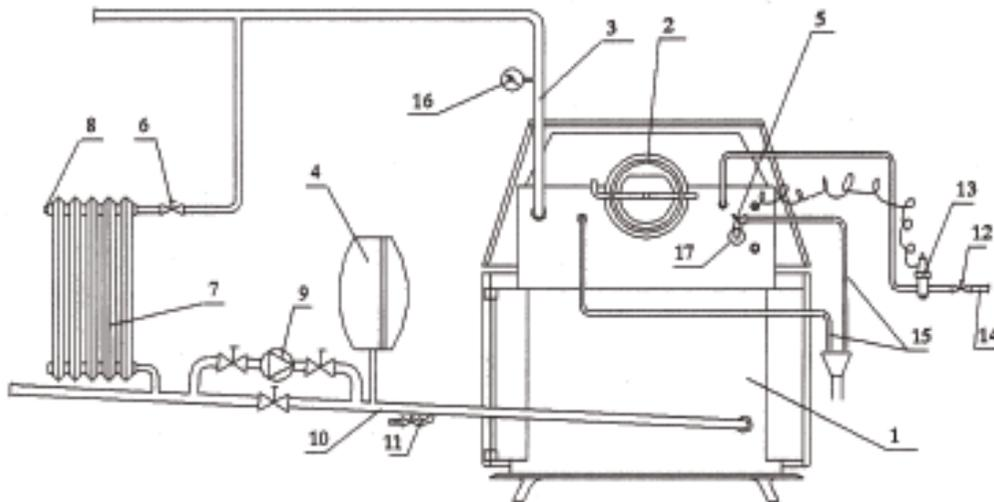

Fig. 7
**Special characteristic of these stoves – furnaces is that they have built-in snake hose (copper pipe) which when connected to the thermal valve (fig. 7 and fig. 7a pos. 13) is used as a thermal fuse for eventual overheating of the stove – furnace.**